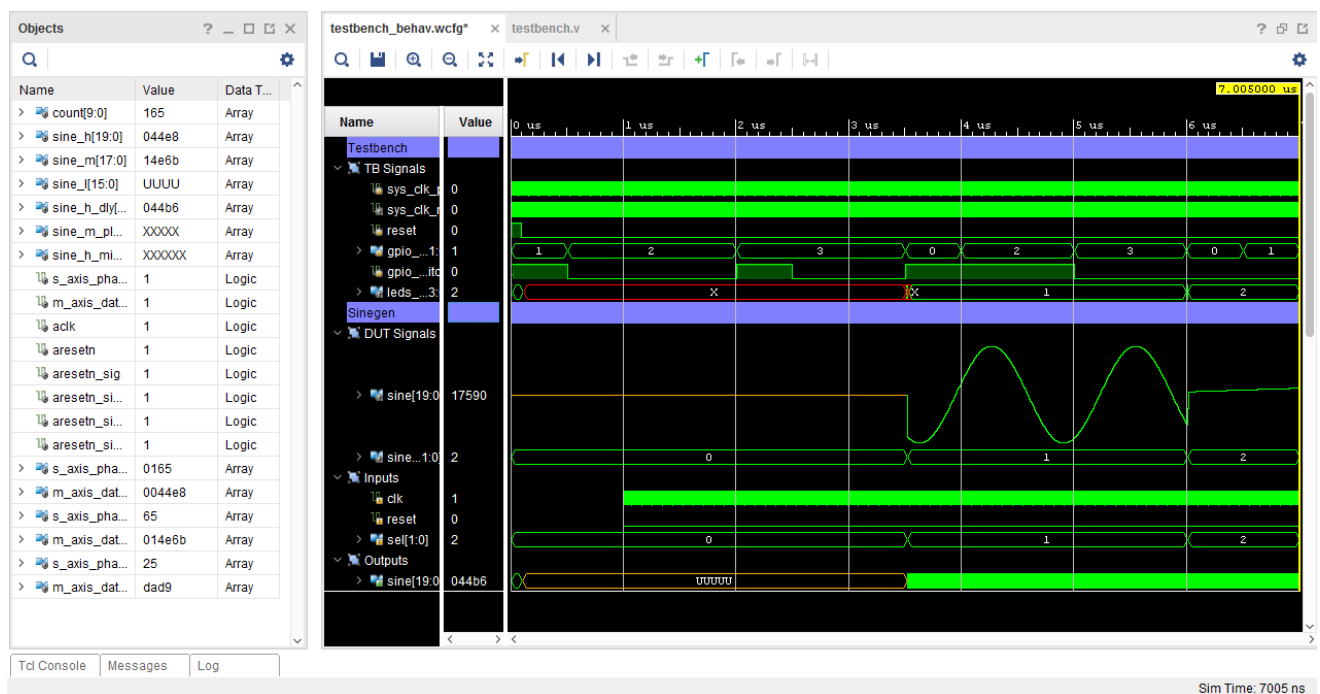

Figure 21: Configuring the Wave Window
7. Repeat steps 5 and 6 above to filter the Output objects and drag them onto the Output group, and filter the Internal Signals and drag them onto the Internal Signals group, as shown in Figure 21.